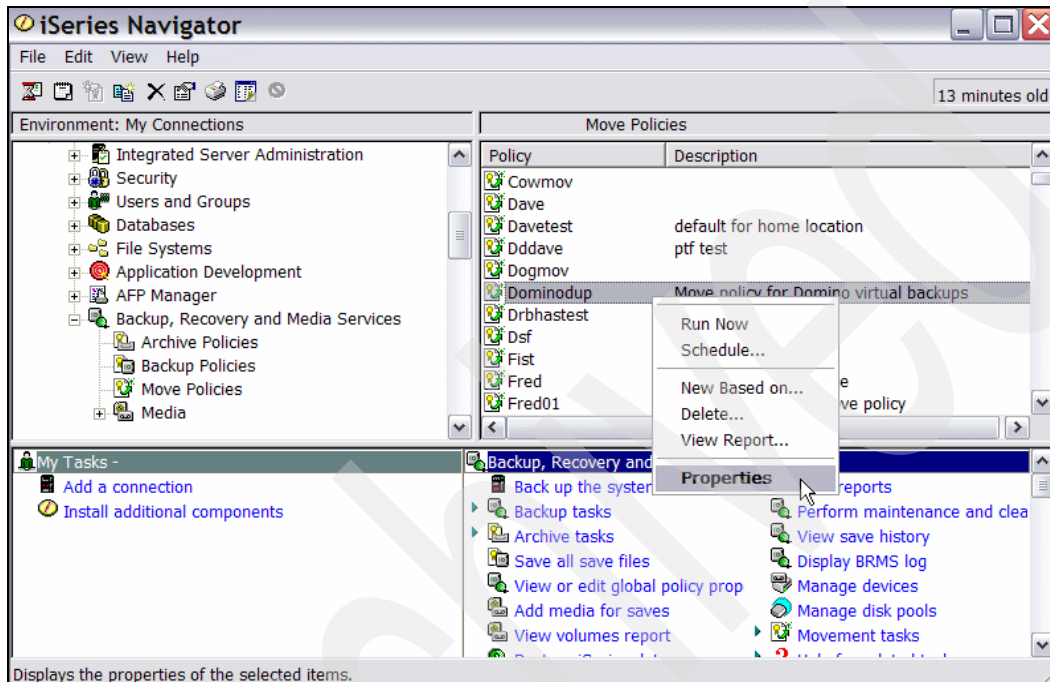

Figure 5-52 BRMS move policy for virtual volumes, change
1. Right-click the new move policy (in this scenario, **Dominodup**), and select **Properties**, as shown in Figure 5-52.